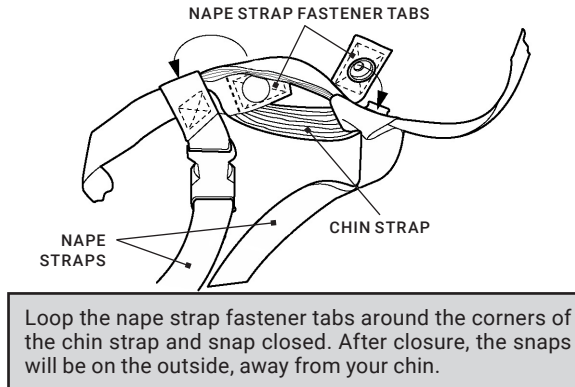

FIGURE 2-8. NAPE STRAP INSTALLATION
5. Thread the chin strap through the right end of neck strap and close the neck strap fastener (refer to Figure 2-8).
6. Thread the chin strap through the left end of the neck strap and close the neck strap fastener (refer to Figure 2-8).